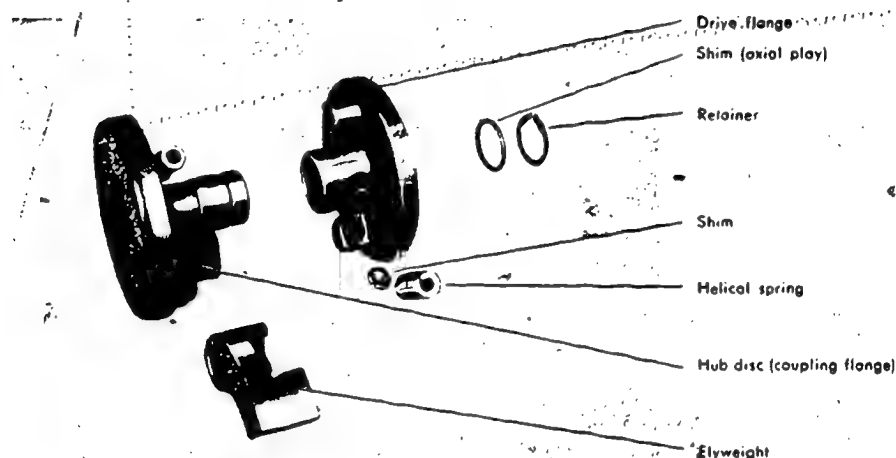

Fig. 6 Components of the EP/SCZ... automatic timing device
C) Working steps for EP/SCZ... devices (Fig. 6)